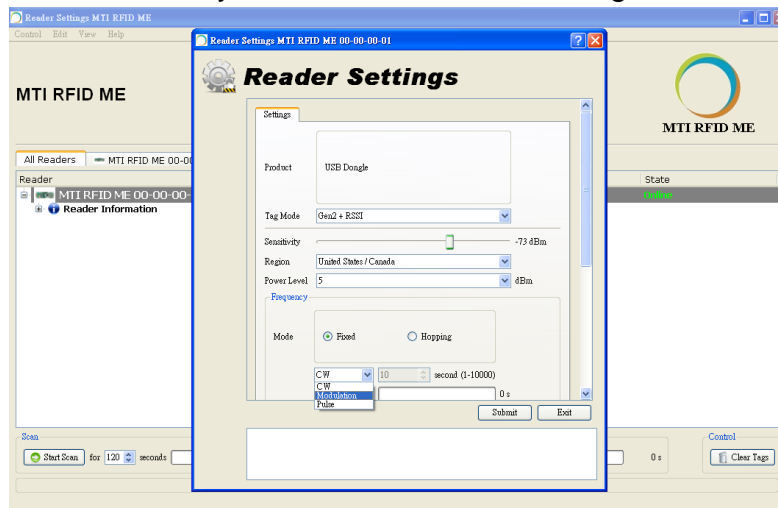

Figure 14
- CW/Modulation/Pulse shown in Figure 14 used for engineering evaluation.